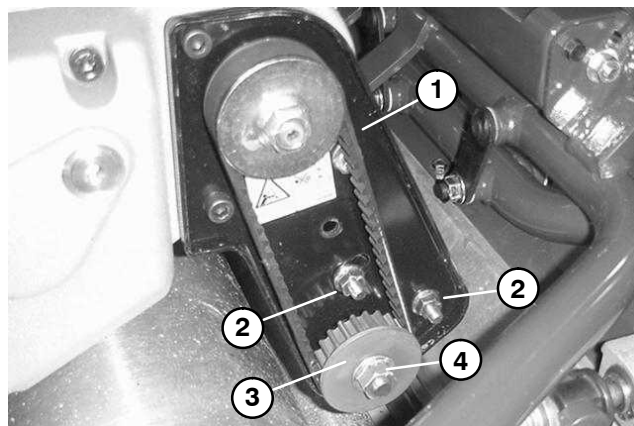

Figure 17
4. Remove flange nut that secures pulley to the shaft (Fig. 17 and 19). Slide pulley from the shaft (pulley on left side of mower uses a pulley washer). Remove woodruff key and spacer.